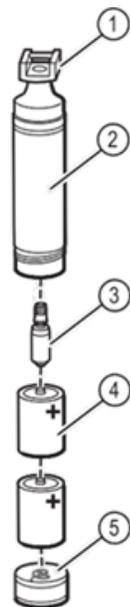
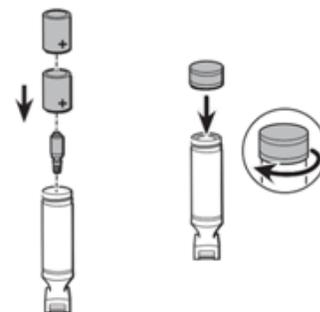

Figure 3
Figure 4
<p>Maintenance, Inspection and Testing</p>	<ol style="list-style-type: none"> <li>1. Inspect each component area (per figure 3) for damage or deterioration.</li> </ol> <p> WARNING: Discard any component that shows evidence of damage or deterioration.</p> <p>Contact Welch Allyn for component replacement.</p> <ol style="list-style-type: none"> <li>2. Reassemble handle (per figure 4) with new or batteries in known good condition.</li> <li>3. Attach handle to a clean and disinfected test blade assembly in known working condition. Verify that: <ul style="list-style-type: none"> <li>• Blade assembly engages and locks onto handle.</li> <li>• Blade assembly deploys into its locked position on handle AND lamp illuminates.</li> <li>• Light output is satisfactory.</li> </ul> <p>If the lamp fails to light or output is low, check or replace the lamp and/or batteries.</p> </li> </ol>
Disassembly:	<ol style="list-style-type: none"> <li>1. Disassemble the handle and remove batteries and lamp cartridge per figures 3.</li> <li>2. Set batteries and lamp cartridge aside.</li> </ol>
Maintenance, Inspection and Testing	<ol style="list-style-type: none"> <li>1. Inspect each component area (per figure 2) for damage or deterioration. <ul style="list-style-type: none"> <li> WARNING: Discard any component that shows evidence of damage or deterioration.</li> <li>Contact Welch Allyn for component replacement.</li> </ul> </li> <li>2. Reassemble handle (per figure 4) with new or batteries in known good condition.</li> <li>3. Attach handle to a clean and disinfected test blade assembly in known working condition. Verify that: <ul style="list-style-type: none"> <li>• Blade assembly engages and locks onto handle.</li> <li>• Blade assembly deploys into its locked position on handle AND lamp illuminates.</li> <li>• Light output is satisfactory</li> </ul> <p>If the lamp fails to light or output is low, check or replace the lamp or batteries.</p> </li> </ol>
Maintenance, Inspection and Testing	<ol style="list-style-type: none"> <li>1. Inspect each component area (per figure 2) for damage or deterioration.                     <div style="margin-left: 20px;">  WARNING: Discard any component that shows evidence of damage or deterioration.                      Contact Welch Allyn for component replacement.                 </div> </li> <li>2. Reassemble (per figure 4) with new or batteries in known good condition.</li> <li>3. Attach handle to a clean and disinfected test blade assembly in known working condition. Verify that:                     <ul style="list-style-type: none"> <li>• Blade assembly engages and locks onto handle.</li> <li>• Blade assembly deploys into its locked position on handle AND lamp illuminates.</li> <li>• Light output is satisfactory.</li> </ul>                     If the lamp fails to light or output is low, check or replace the lamp and/or batteries                 </li> </ol>
1. Unscrew bottom cap of handle counterclockwise and remove batteries per figure 3.
2. Remove lamp cartridge assembly from main handle by applying finger pressure in the direction shown by the arrow per figure 4.
1. Unscrew bottom cap of handle per figure 3 and remove batteries.
3. Insert batteries and reinstall bottom cap per figure 3.